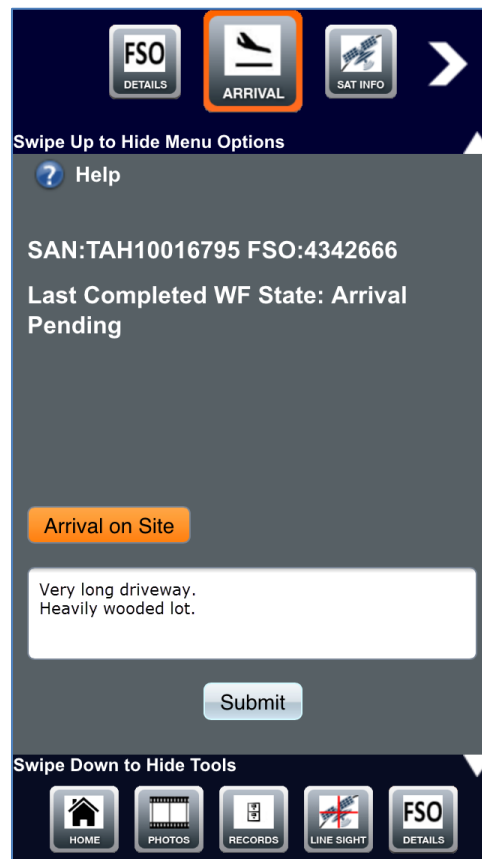

Figure 13: Arrival step – entering notes
2. Tap **Arrival on Site** in the Arrival step. A textbox appears (Figure 13).